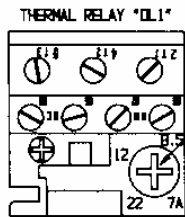

FIGURE 5
2. THE THERMAL RELAY "DL1" - ITEMS 10 TO 13 MUST BE ADJUSTED TO THE MOTOR USED (F.L.AMPS) CORRESPONDING TO THE SUPPLY LINE VOLTAGE BEING USED. SEE FIG. 5 & MOTOR TABLE